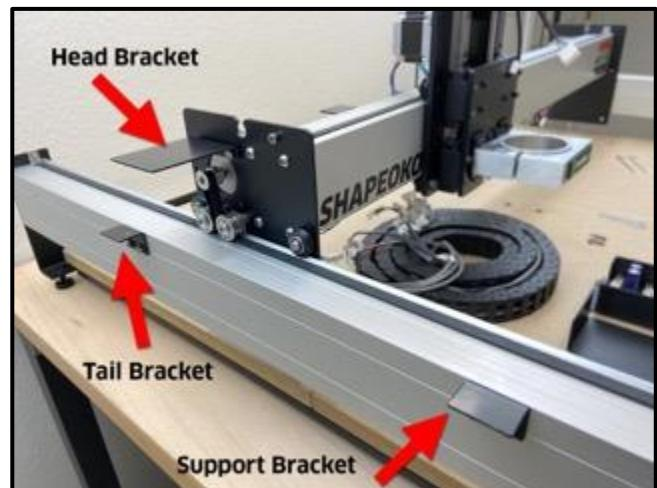

Figure 6-8
3. Use the 3mm hex key and two (2) M4x6mm socket head cap screws to attach the support bracket (no PEM nut) to the outside of the Y1-rail. Install closest to the front endplate. See *Figure 6-8*.
4. Use the 3mm hex key and two (2) M4x6mm socket head cap screws to attach the tail bracket (single PEM nut) to the outside of the Y1-rail closest to the rear endplate. See *Figure 6-8*.